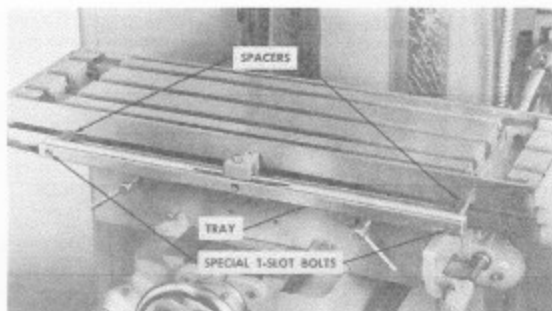

Fig. 34. Measuring tray attached to table.
- B. Remove regular stops from T-slot side of table and replace them with long measuring tray. See Fig. 34. Use two spacers (1 1/2" long) to hold tray away from table.